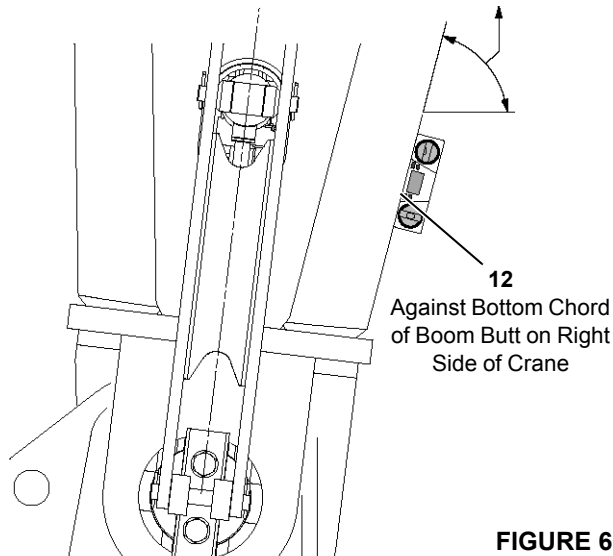

FIGURE 6-6
12	Digital Level (see <a href="#">Figure 6-6</a> )
- Place an accurate digital level (12) on the boom butt as shown in Figure 6-6. The corresponding **Digital Level Angle** should appear on the digital level.